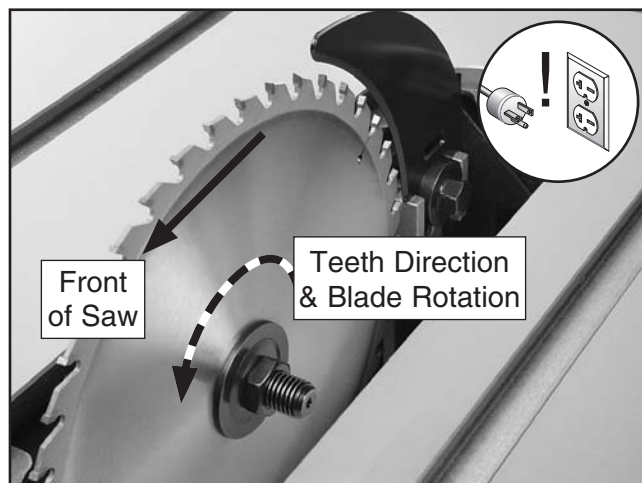

Figure 49. Example of correct blade direction.
5. Slide the blade over the arbor with the teeth facing the front of the saw, as shown in **Figure 49**.